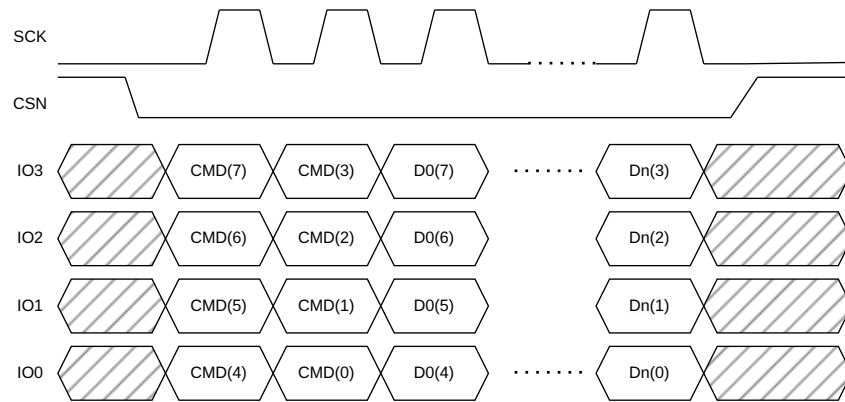

Figure 1.9: QSPI transaction.
The QSPI uses the same mechanism that offer SPI but instead of using **MISO** / **MOSI**, the QSPI uses all four (4) bits for data transmission (**IO3**, **IO2**, **IO1**, **IO0**) see Figure 1.9. The devices changes IO direction, on the data bytes, depending if a read operation transaction is issued.